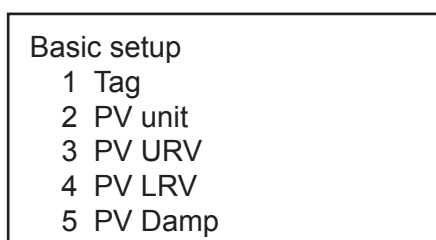

Figure 7-7 Transmitting the setting
5. After pressing F4 (ENTER) and returning to the basic menu, press F2 (SEND). The HART mark will appear in the upper right hand corner while HART is communicating with the device. (Figure 7-7) Once communication is complete, the HART mark will disappear.